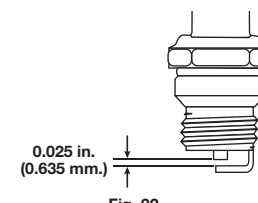

Fig. 22
3. Replace a cracked, fouled or dirty spark plug. Set the air gap at 0.025 in. (0.635 mm) using a feeler gauge (Fig. 22).